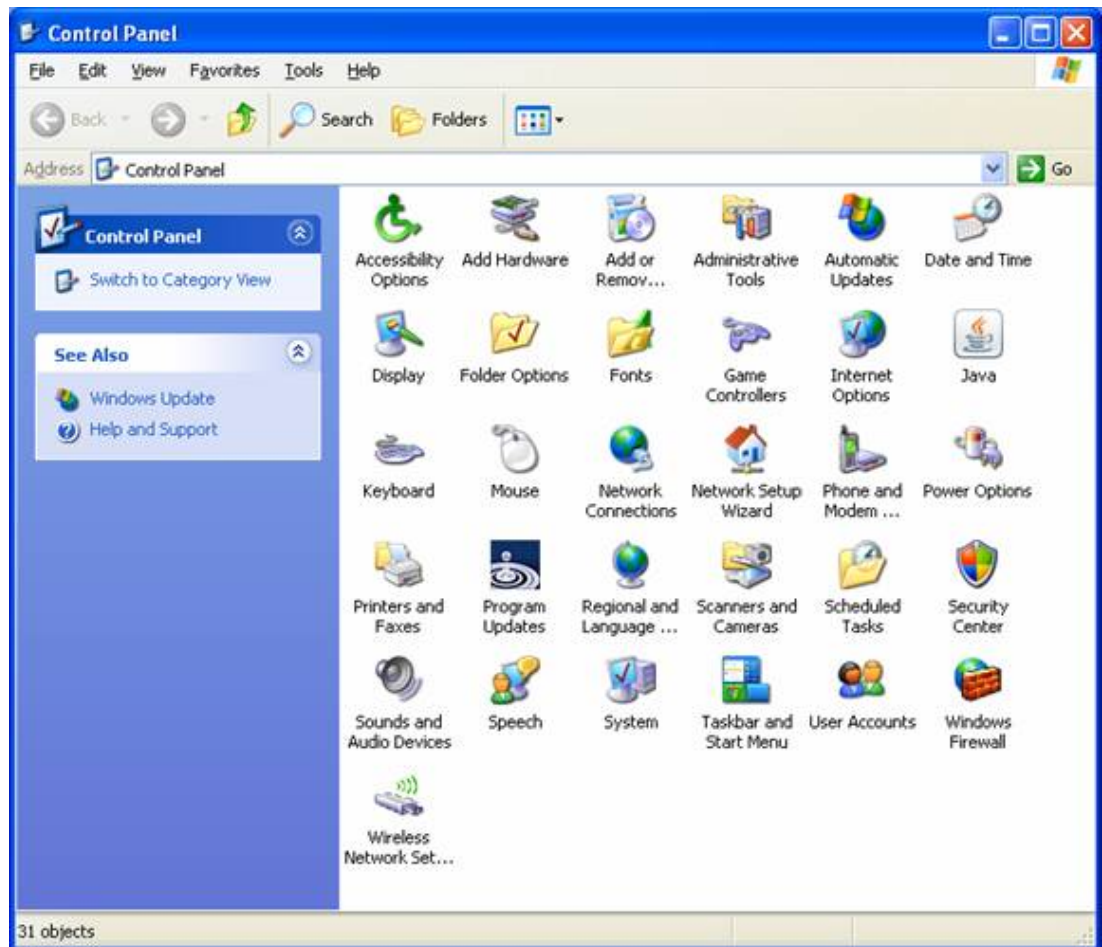

Figure 2. Control Panel window
1. Navigate to the Control Panel window (see Figure 2).